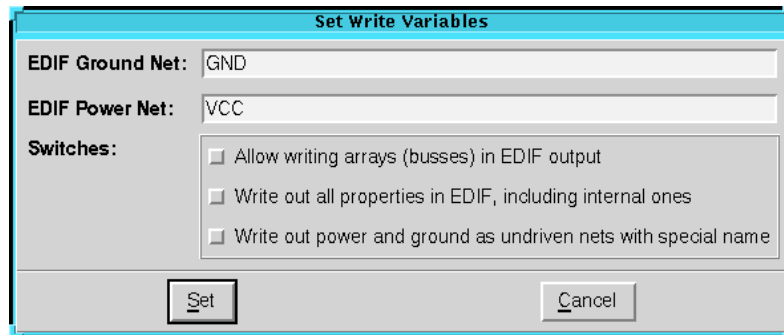

Figure 1-15 Set Write Variables Dialog Box
25. Click on the Advanced button in the Write dialog box to open the Set Write Variables dialog box shown in the following figure 1-15.